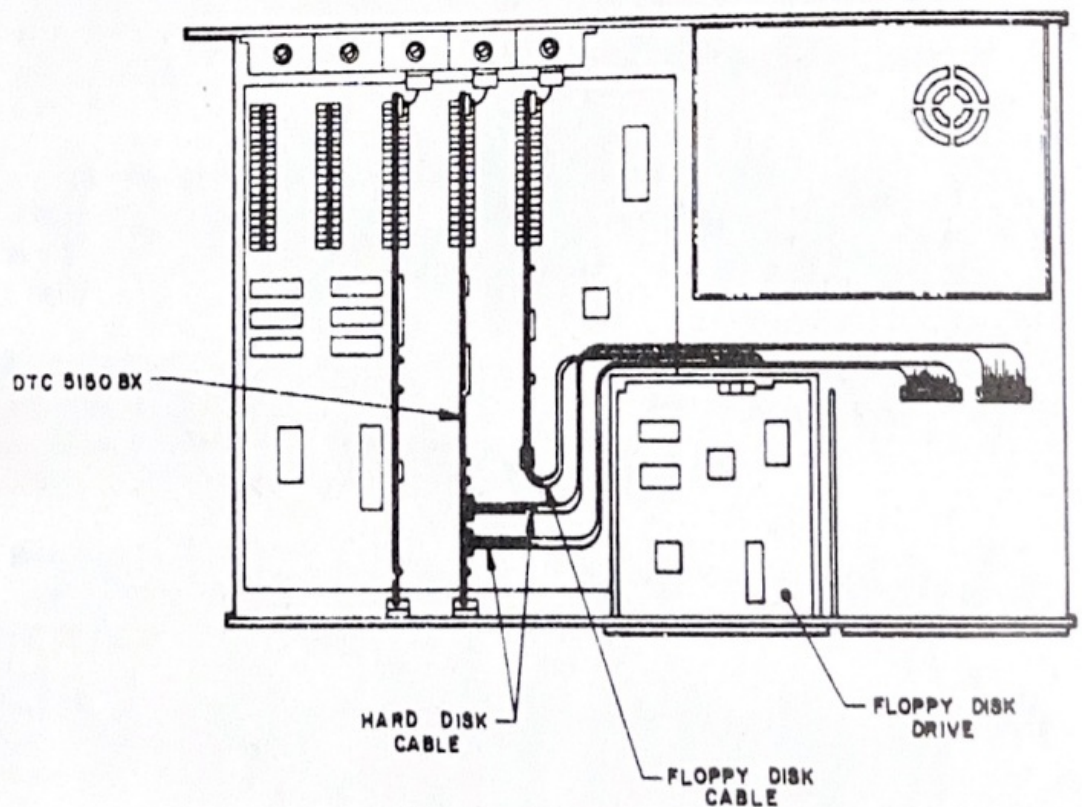

Figure 5. Routing of Cables for Internal Mounting
a. Route cables around the other expansion cards, then around the back of the left-hand floppy disk drive, and into the area behind the hard disk (See Figure 5). Carefully bend the cables as necessary to allow access to the rear of the hard disk drive.